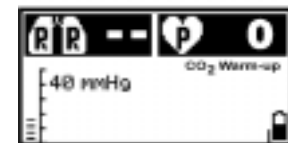

Figure 10-4: Measuring Mode
7. After the Self-Test, the monitor automatically goes to Measuring Mode. The message **CO2 Warmup** appears on the Silent Advisory Message area. (Refer to Figure 10-4: Measuring Mode.)